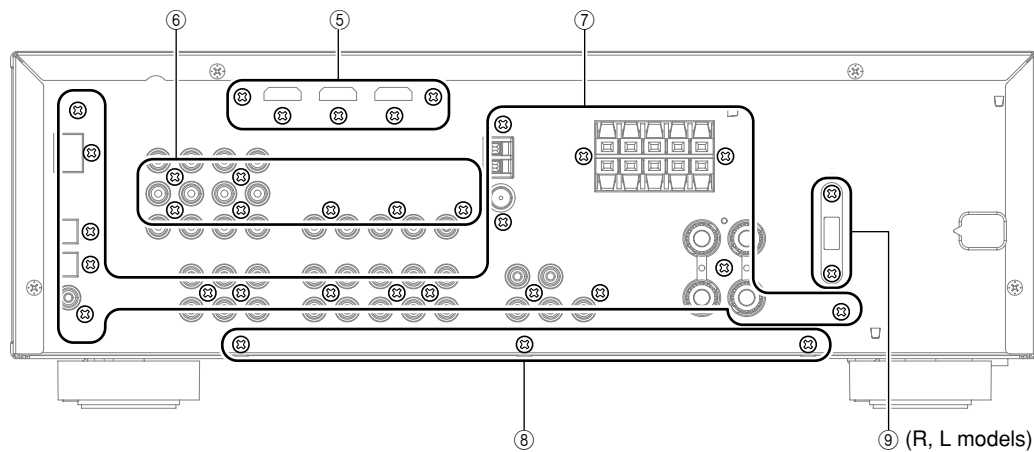

Fig. 3
- b. Remove 5 screws (⑤). (Fig. 3)
- b. Remove 7 screws (⑥). (Fig. 3)
- a. Remove 18 screws (⑦), 3 screws (⑧) and 2 screws (⑨) (R, L models). (Fig. 3)
- b. Remove 3 screws (⑧). (Fig. 3)